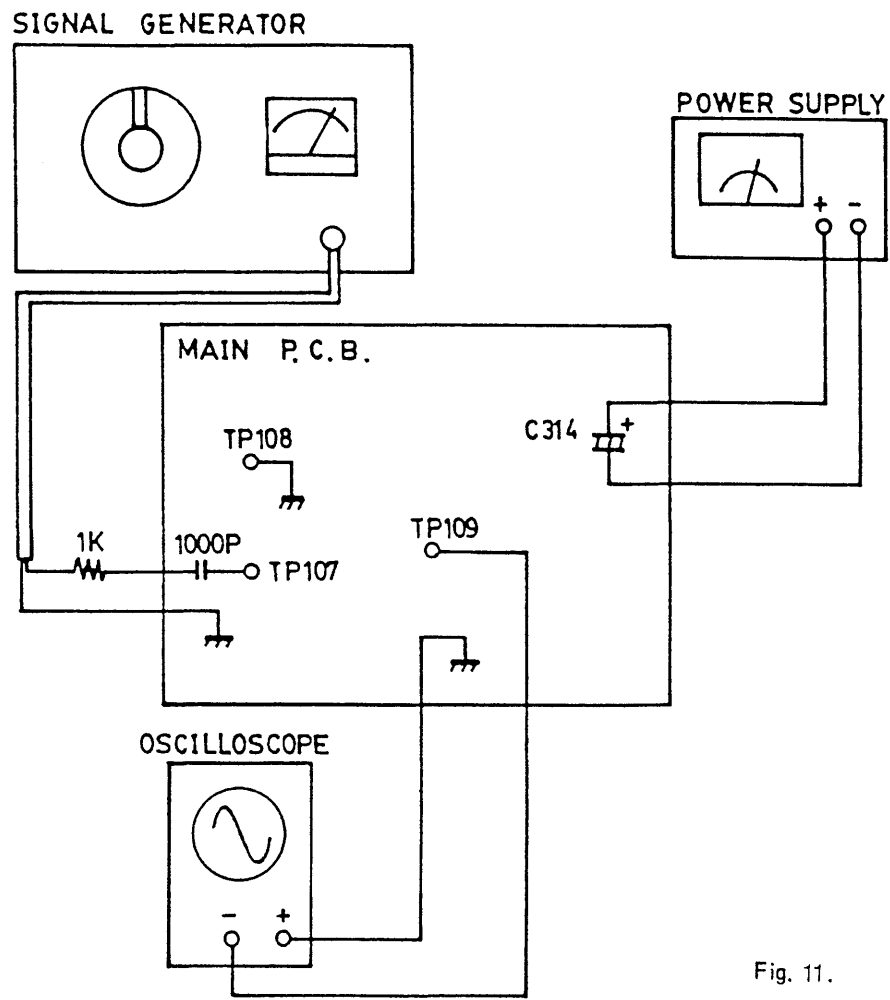

Fig. 11.
1. The signal from AM/FM signal generator which is set at 5.5MHz with AF400Hz, 30% FM modulation, is applied to TP107 (between C127 and C128) through a 1K ohm resistor and a 1000pf capacitor as shown in Fig. 11.